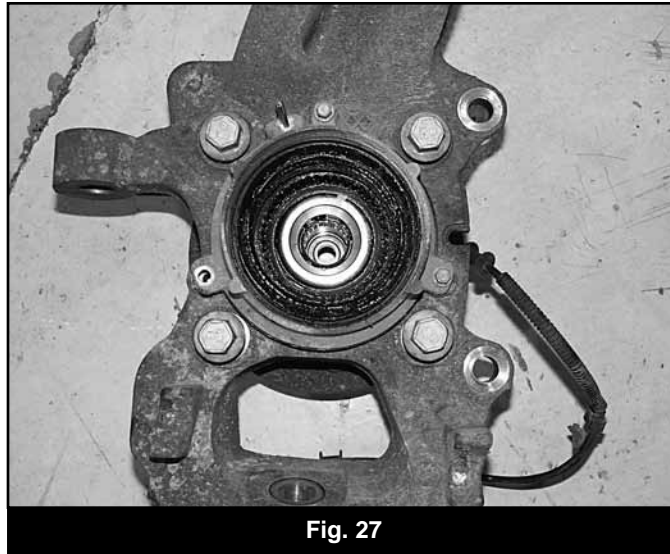

Fig. 27
50. Remove the four hub bolts from the knuckle and remove the hub from the knuckle (Fig 27).
52. Remove the three bolts mounting the vacuum hub assembly to the OE knuckle (Fig 27) and reinstall the assembly in the corresponding new knuckle with the OE hardware. Tighten bolts securely (about 5-7 ft-lbs).